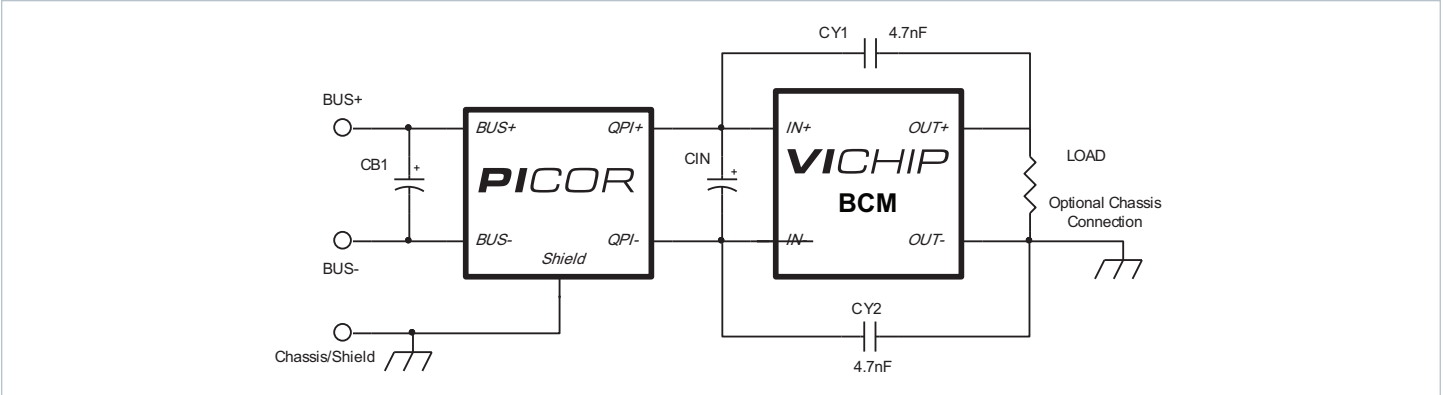

Figure 18 — BCM converter in open-frame configuration with the output connected to chassis/earth.
**Attenuation Plots** — QPI-12 with various BCM modules, connected in open frame configuration, as shown in Figure 18.
When using the QPI-12 with a Vicor PRM/VTM or BCM, in a power system that requires the converter's output to be connected to chassis/earth, Picor recommends using the open-frame configuration of "Y" capacitors, shown in Figure 18, to re-circulate EMI currents. A base-plate configuration could also be used with a slight decrease in EMI attenuation, but with peaks well below class B limits.